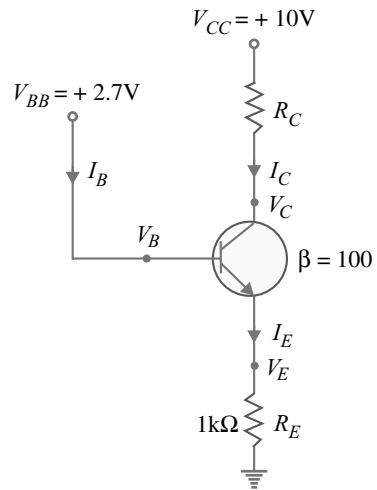

Fig. 6.62
**Example 6.43.** Determine the state of the transistor in Fig. 6.62 for the following values of collector resistor :